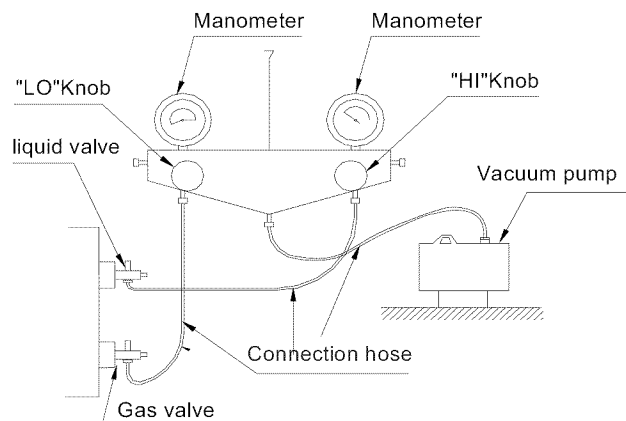

Fig 10
- As shown in the following figure (Fig. 10), expel the gas inside the indoor unit and the refrigerant pipe with the vacuum pump.